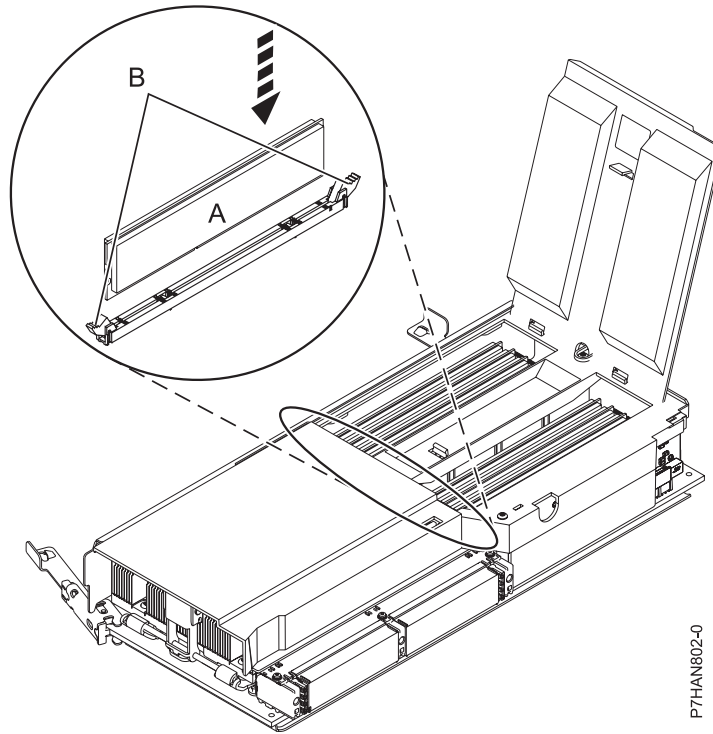

Figure 2. Replacing a memory module
12. Ensure that the connector locking tabs (**B**) are pushed out into the unlocked position, as shown in Figure 2 on page 4, before installing a new memory module.
13. Carefully grasp the memory module (A) along two edges and align it with the connector.